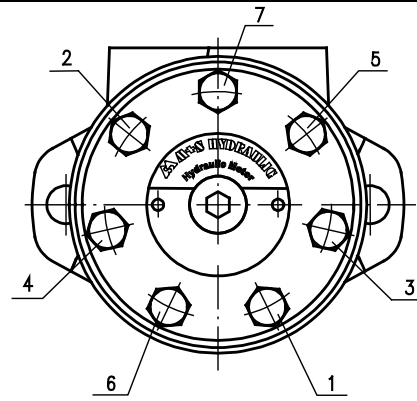

Fig.10
21. Install screws and washers in end cover. Tighten screws with 3÷3,5 daNm torque (4÷4,5 daNm for “U” versions) using a S13 torque wrench in sequence as shown in Fig.10.